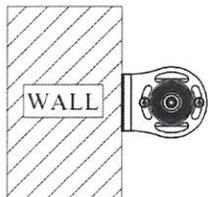
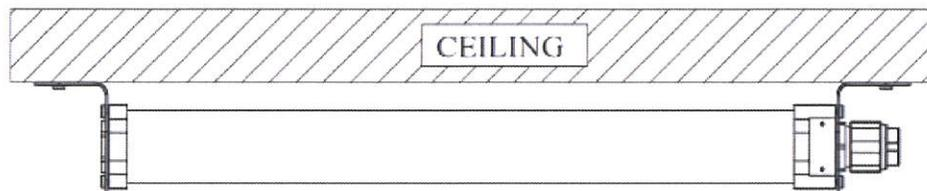

Figure 1
Figure 2
- ☞ The mount bracket is for the use of both Wall mount (Figure 1) and Ceiling mount (Figure 2).